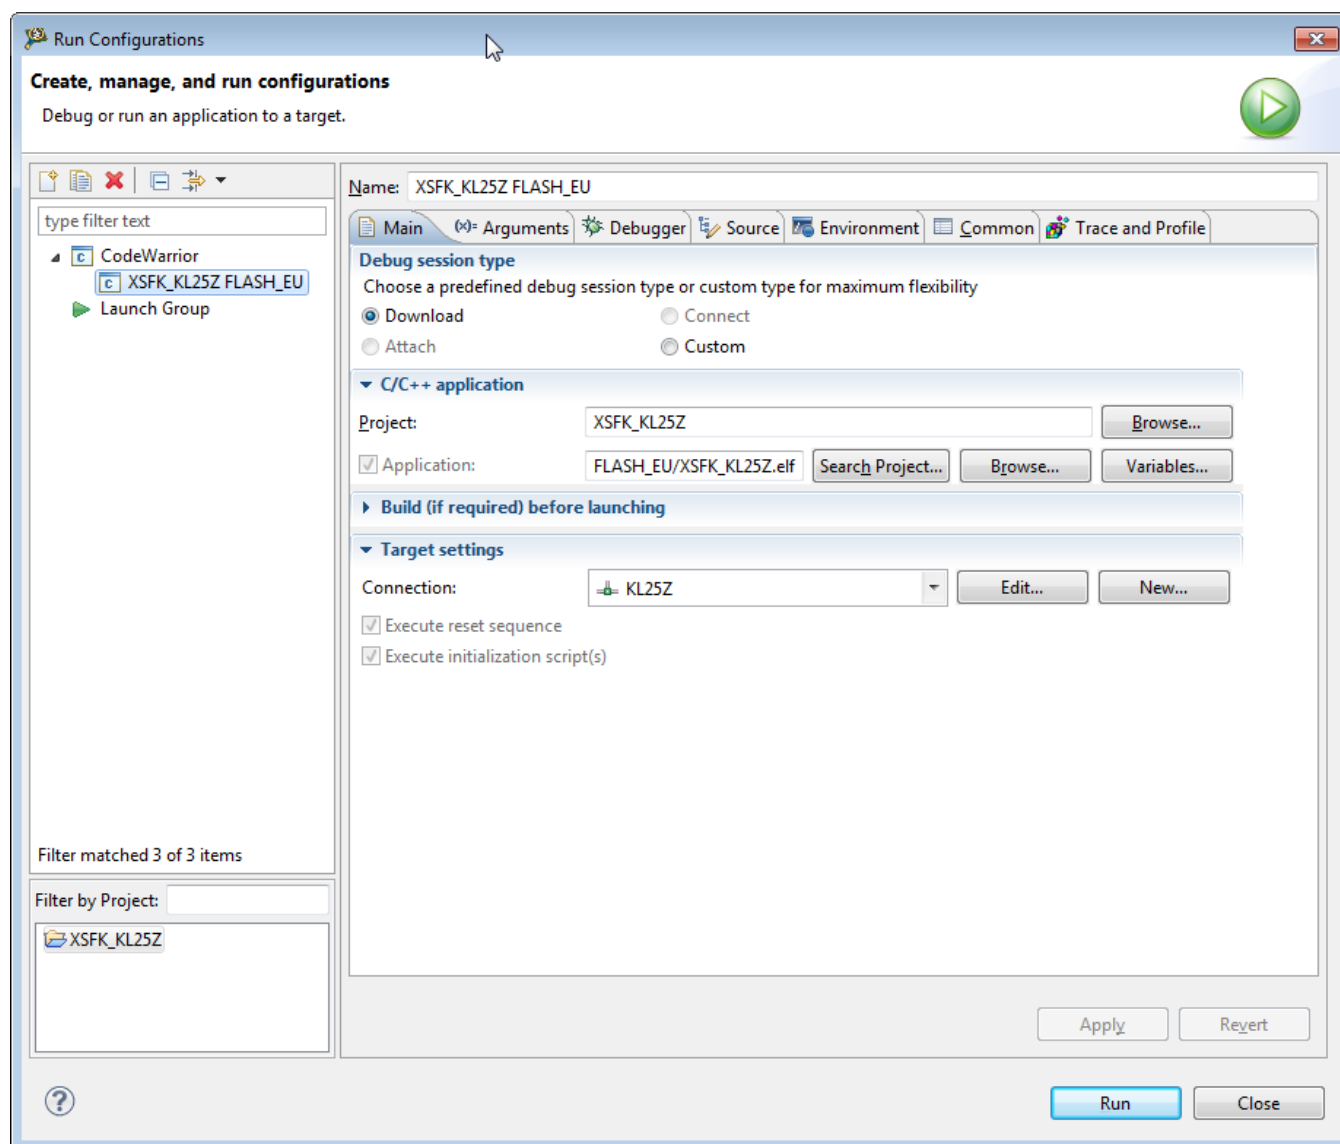

Figure 15. Run Configurations window
- Select **Run->Run Configurations** to bring up the Run Configurations dialog, shown in Figure 15.